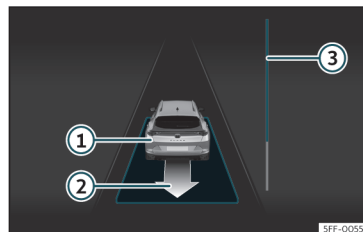

Fig. 182 On the instrument panel display: exit a parallel parking space.
- Reverse until the continuous ParkPilot signal sounds; **OR:** reverse until the instrument panel display shows the forward indication. The progress bar  **Fig. 182 ③** indicates the distance to cover  **page 274**.